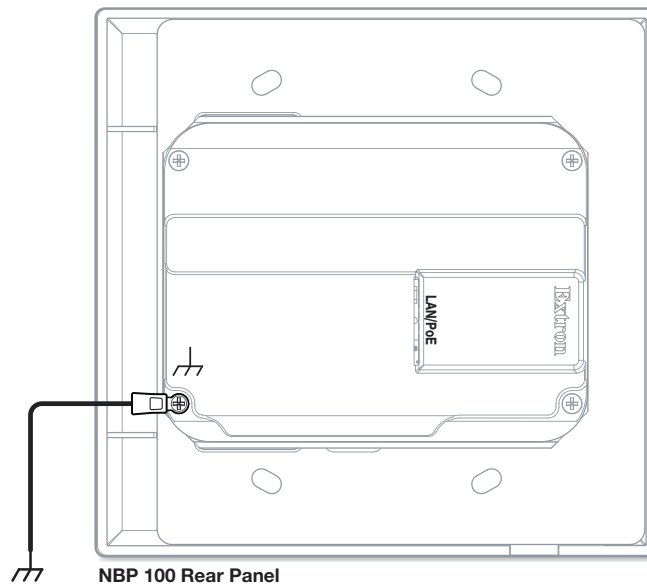

Figure 4. Connecting a Grounding Wire to the NBP
- b. Remove the grounding screw in the lower left corner of the rear panel, insert the grounding cable, replace and securely fasten the screw (see figure 4 at right). Do not over-tighten the screw. Maximum torque is 2 inch-pounds (0.2 Newton-meter).